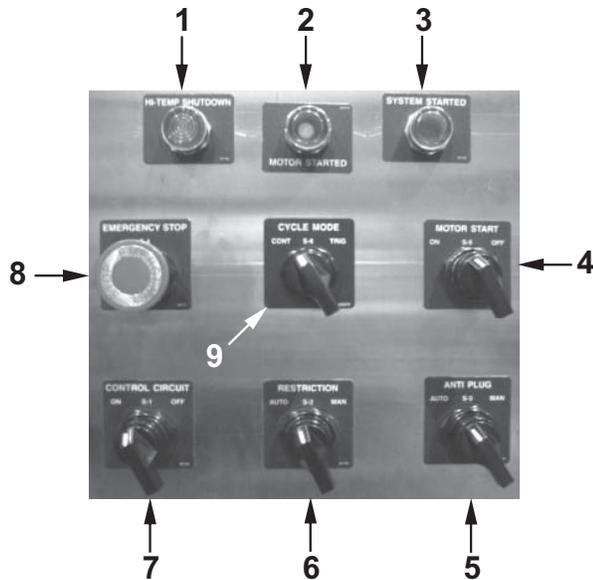

Figure 16 - Control Panel
1. Push the Emergency Stop switch. (see Figure 16)